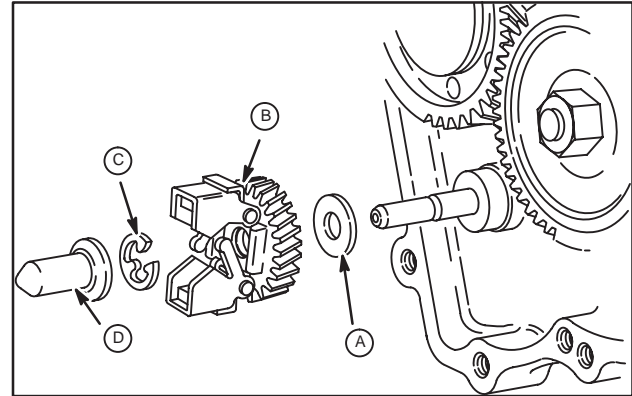

Fig. 13 – Installing Governor Gear
1. Assemble governor gear to shaft, Fig. 13.